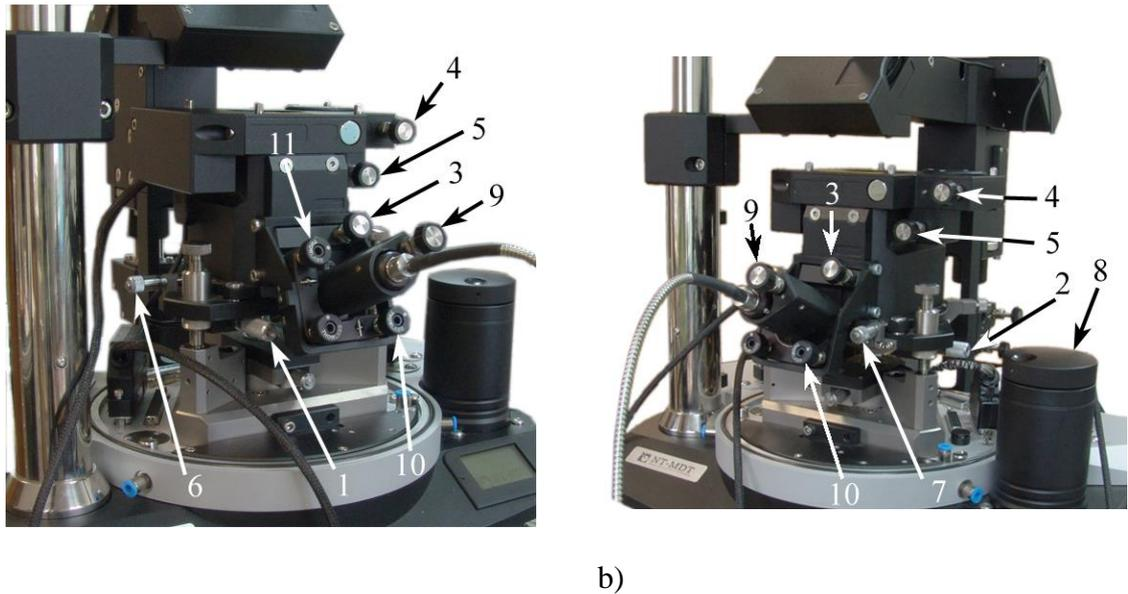
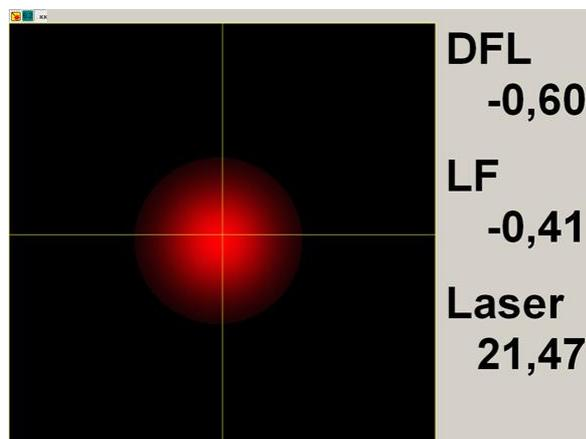
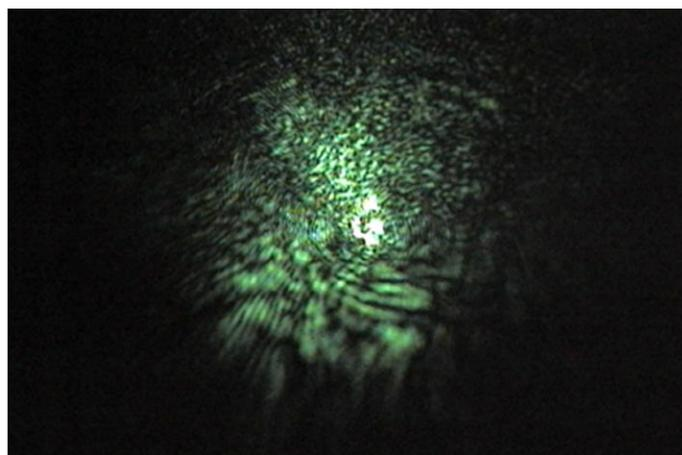

Fig. 10-3. Measuring head installed
Fig. 10-4. Laser spot adjusted at the center of the photodiode
Fig. 10-8. Laser beam aimed at the tip apex
2. Focus the lens on the sample surface by rotating the screw 3 (Fig. 10-3).
3. Rotate the photodiode positioning screws 4, 5 (Fig. 10-3) to move the laser spot in the position indicator to the center of the photodiode (Fig. 10-4).
Before approaching the sample to the probe, make sure that the probe is in the viewing field of the optical viewing system. If necessary, move the probe under the lens of the optical viewing system (Fig. 10-5) with the screws 5 and 6 (Fig. 10-3). Watch movement of the probe either immediately or on the screen of the optical viewing system.
Focus the lens on the sample surface by rotating the screw 3 (see Fig. 10-3).
3. Watch the probe from a side and on the screen of the optical viewing system and aim the laser beam at the tip apex (Fig. 10-8). Move the laser beam by rotating the screws 10 and 11 (see Fig. 10-3).
4. Rotate the screw 9 (see Fig. 10-3) to focus the laser beam on the tip apex (Fig. 10-9).
1. Rotate the screw 3 for fine focusing of the lens (Fig. 10-3) to focus the lens on the cantilever.
NOTE. To remove the cantilever from the lens viewing field, use the screws 1, 2 (Fig. 10-3).